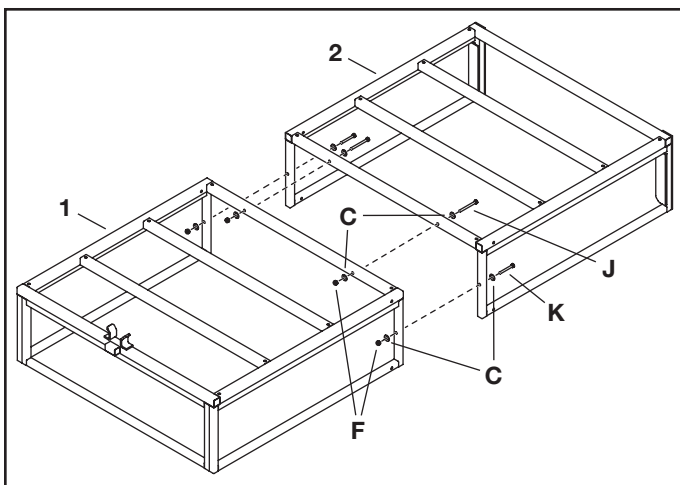

FIGURE 1
STEP 1: (SEE FIGURE 1)
- Ensure the front trailer frame (1) and rear trailer frame (2) are upside down.
- Secure the sides of the front trailer frame (1) to the sides of the rear trailer frame (2) using two M6x50 mm bolts (K), M6 steel washers (C), and M6 locknuts (F).
- Secure the bottom of the front trailer frame (1) to the bottom of the rear trailer frame (2) using two M6x65 mm bolts (J), M6 steel washers (C), and M6 locknuts (F).